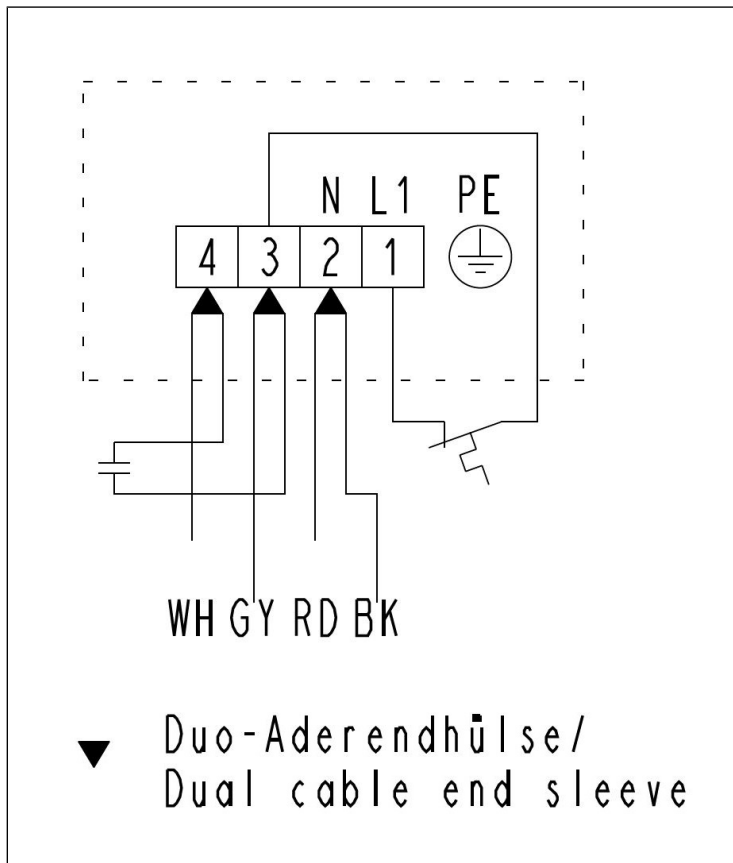

Fig.6: Electrical connection of .16 version
4. Connect the power cable to the L 1 and N connections of the terminal blocks (see Fig. 6).